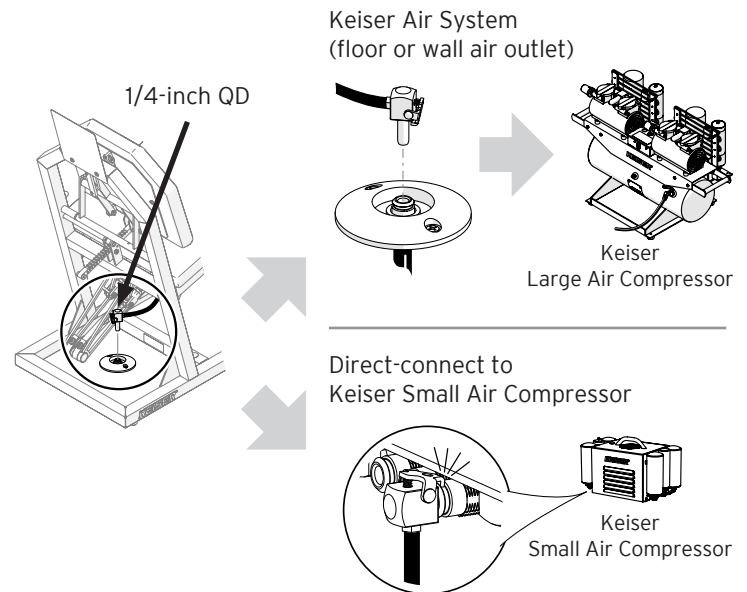

Figure 3. How to Connect the Equipment to the Keiser Air Supply
2. Connect the 1/4-inch Quick Disconnect (QD) from the equipment into the Keiser Air Supply (see Figure 3).